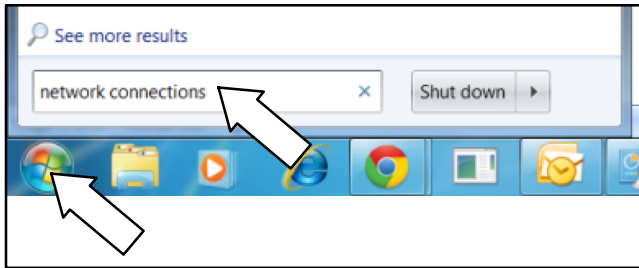

Figure 21 Search for Network Connections
14.1 Click on the Windows Start icon in the lower left corner of the screen. See Figure 21.